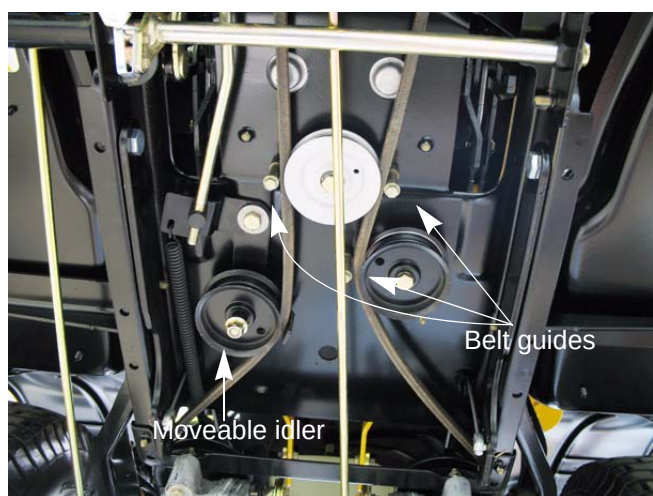

Figure 5.4
6. Remove the three belt guides near the idler pulleys. See Figure 5.4.
NOTE: It may be necessary to loosen the moveable idler pulley to get the belt to clear the belt guide on the idler bracket. See Figure 5.4.